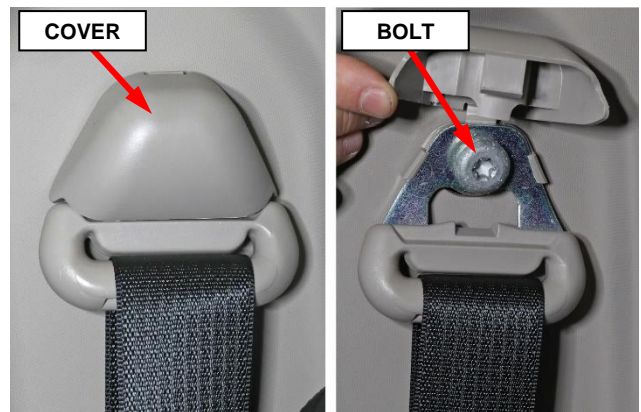

Figure 29 – Seat Belt Turning Loop
- 17. On the C-pillar, lift the seat belt turning loop cover then remove the turning loop bolt (Figure 29).
- 57. Using a **NEW** bolt and reusing the spacer washer, install the turning loop then tighten the bolt to 40 N·m (30 ft. lbs.) (Figure 29).
- 58. Install the seat belt turning loop cover (Figure 29).